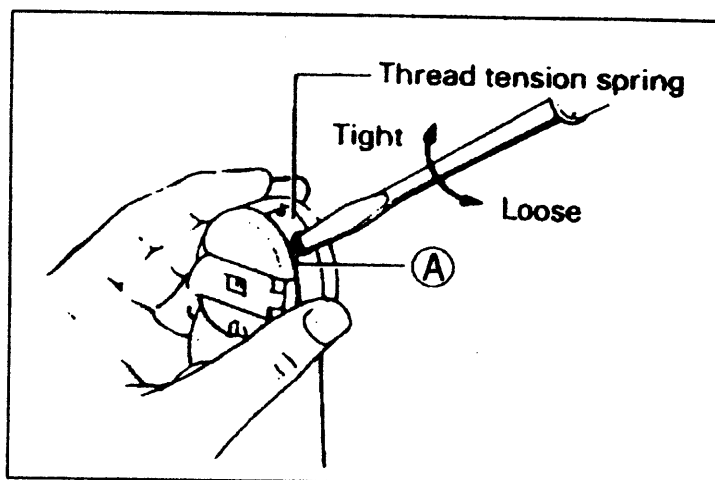

Fig.8
- 3) Tension of the lower thread (Fig.8)